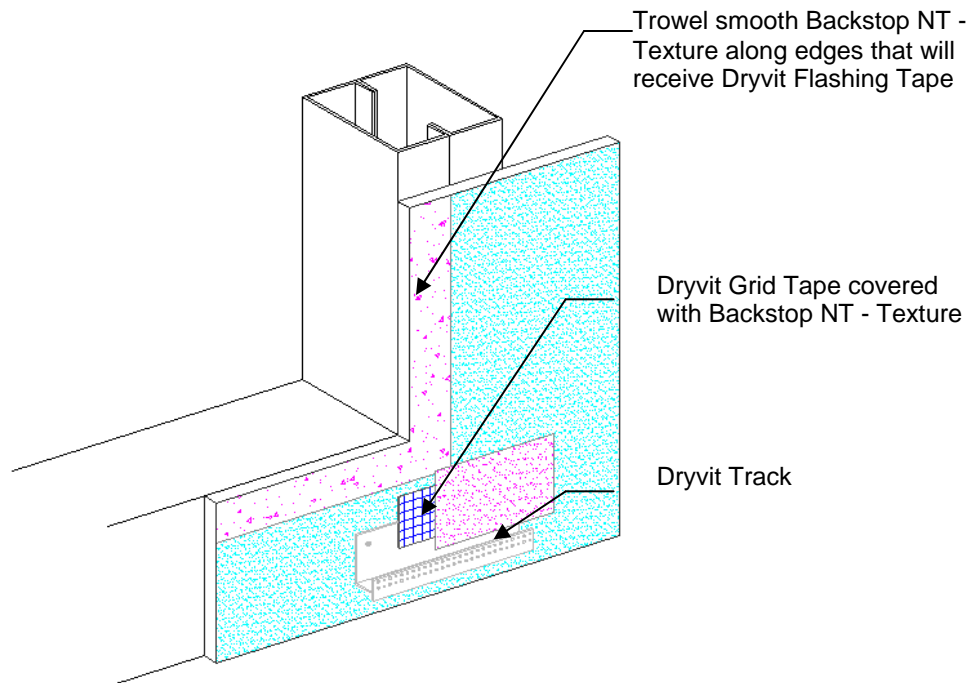

Figure 17
- d) While the Backstop NT - Texture is still wet, using a trowel or spatula, smooth out the Backstop NT - Texture around all window and door perimeters and other areas that will later receive Dryvit Flashing Tape - Figure 17.
- d) While Backstop NT - Texture is still wet, using a trowel or spatula, smooth out the Backstop NT - Texture around all window and door perimeters and other areas that will later receive Dryvit Flashing Tape – Figure 17.